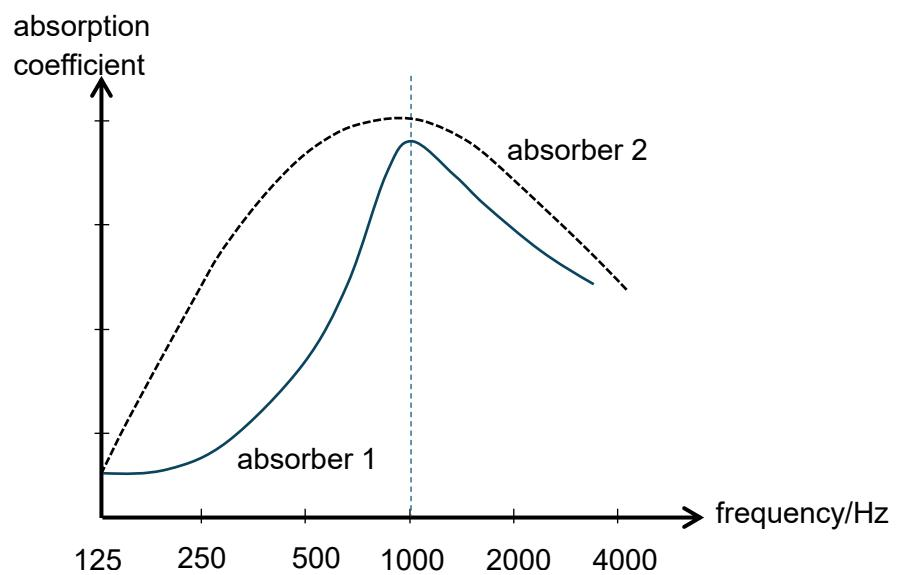

Fig. 7.5
- (f) The panel with 5.0 mm holes is selected and tested with its airspace filled with absorber 1 and absorber 2 separately. The absorption characteristics shown in Fig. 7.5 were obtained, where the absorption coefficient is the ratio of energy absorbed to energy incident on the absorber.
- (i) With reference to Fig. 7.3 and Fig. 7.5, state the effect absorbers have on the resonant frequencies when they were inserted in the airspace.